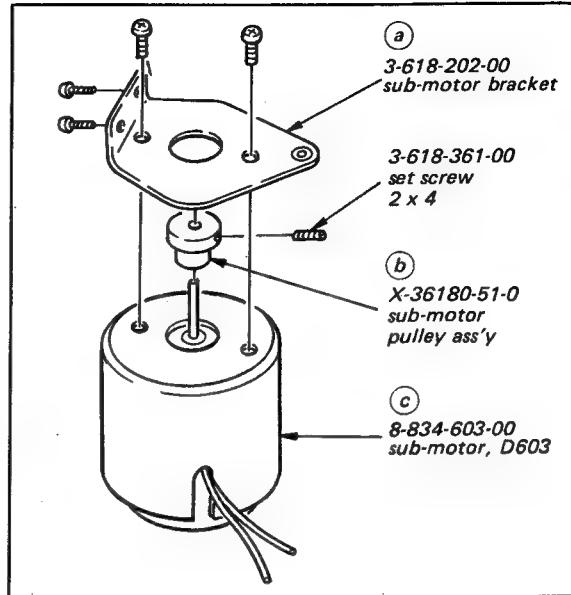

Fig. 7-23 Sub-motor assembly
5. Remove screws in Fig. 7-23 to take out the sub-motor assembly.
6. Remove ④ submotor bracket and ⑤ from sub-motor as shown in Fig. 7-23.
9. Install the bracket shown in Fig. 7-23, and the belt.